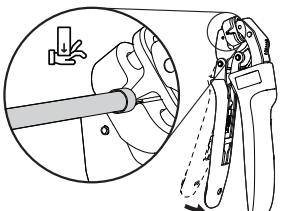

Figure 3
3. Position ferrule into the tool jaw (Figure 3)
4. Close handles until the SHURE STAKE® mechanism cycle has been completed (Figure 3).